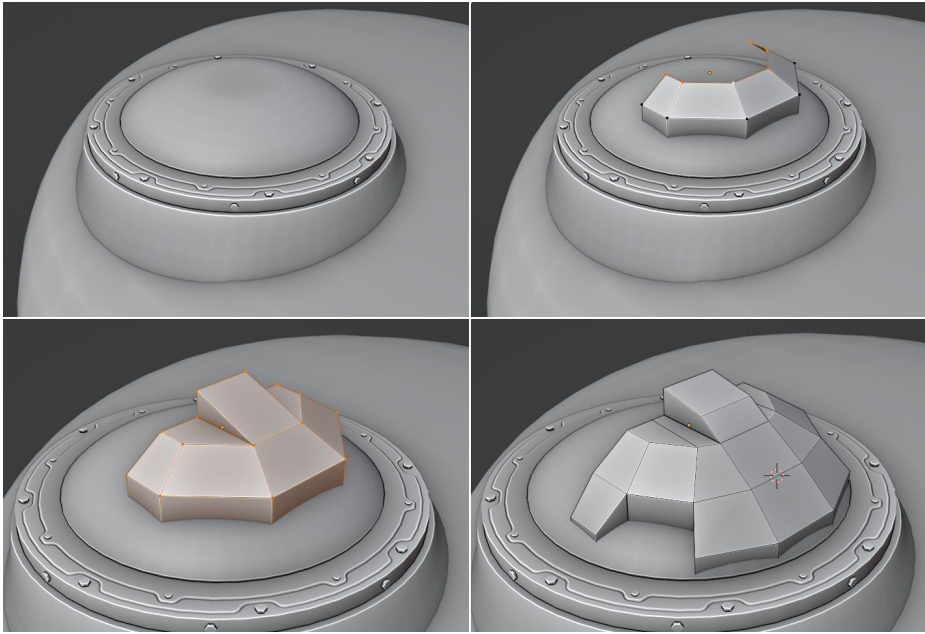

Figure 9.14 – Hatch shape
13. Create a dome on top of the hatch and use half of an octagon to create a shape, as in *Figure 9.14*: